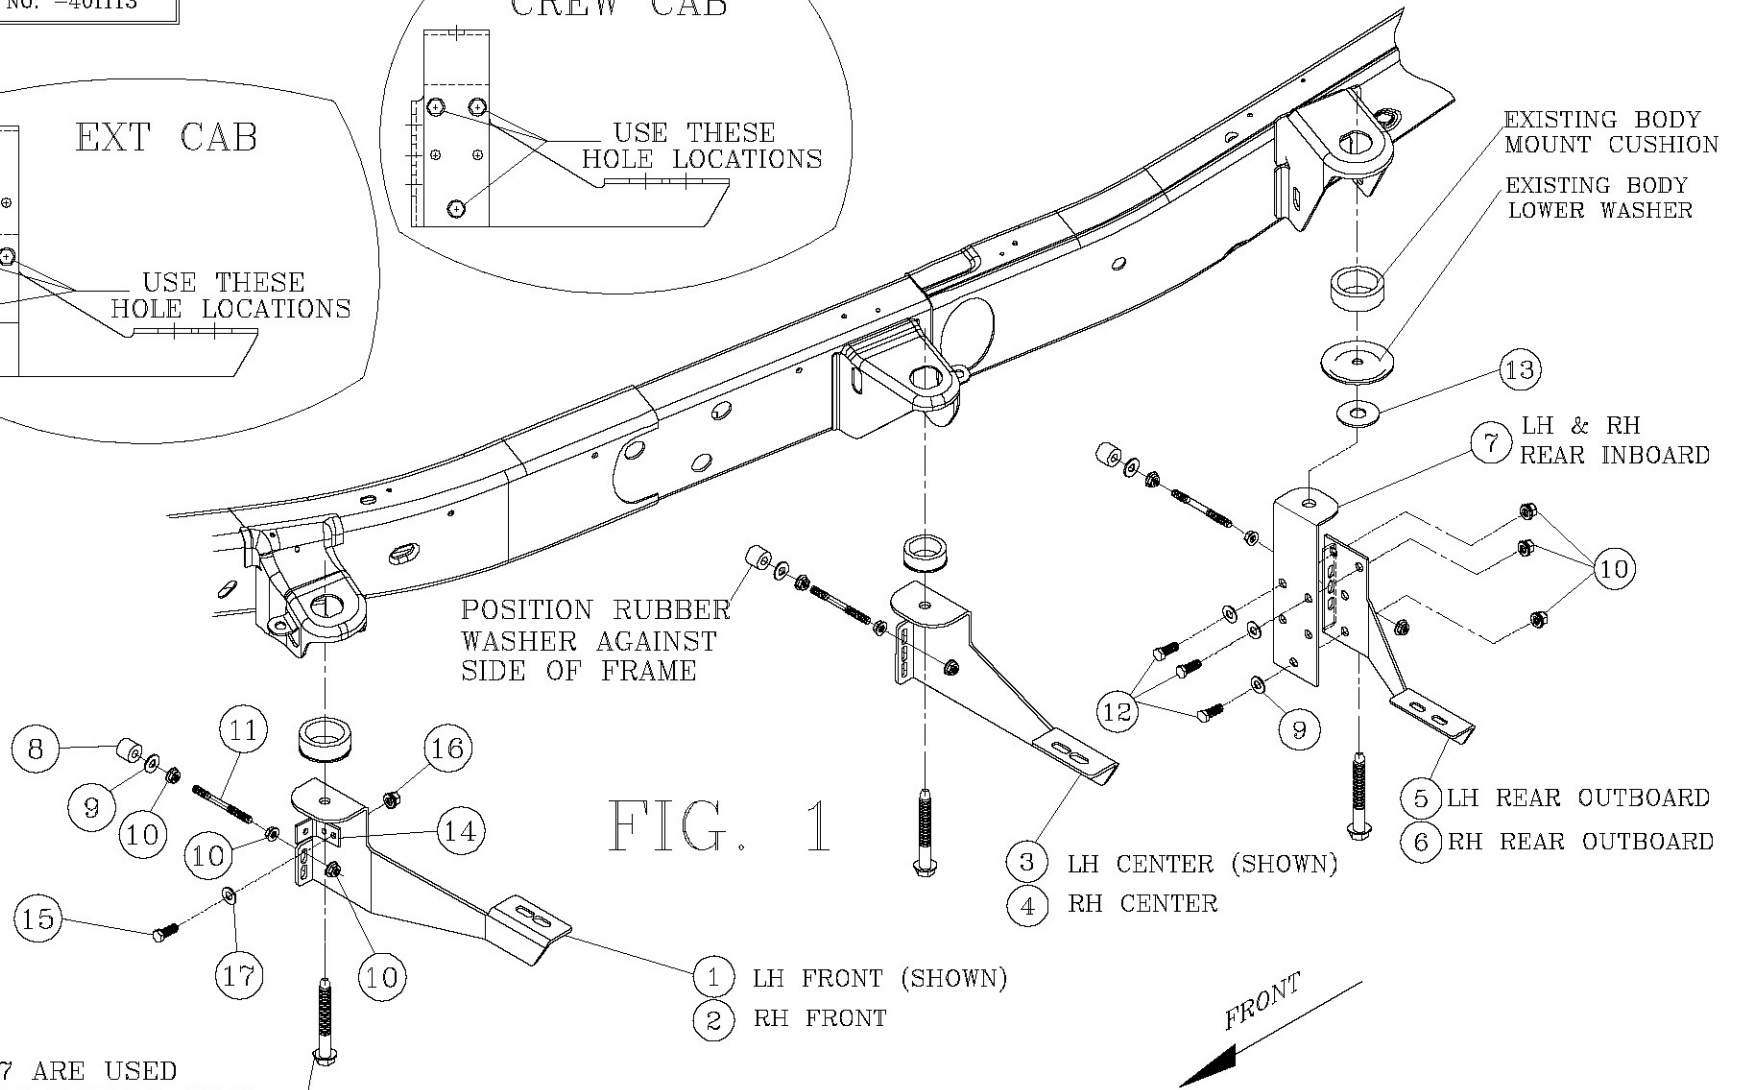

FIG. 1
**NOTE: IF YOU ARE MOUNTING THE STEPS ON A 1500 MODEL PICKUP, YOU MUST ATTACH BRACKET (ITEM #14) TO BRACKETS (ITEM #1 & 2) (SEE FIG 1.) IN ORDER TO USE THE LOAD REACTION STUD.**
- 4.3.1. ATTACH THE REAR OUTBOARD CAB MTG BRKT (ITEM #5 & #6) TO THE REAR INBOARD CAB MTG BRKT (ITEM #7), WITH THE 3/8" BLACK ZINC PLATED BOLTS (ITEM # 12), WASHERS (ITEM #9) AND SERRATED FLANGE NUTS (ITEM # 10). THE REAR OUTBOARD CAB MTG BRKT MUST BE MOUNTED TO THE BACK SIDE OF THE REAR INBOARD CAB MTG BRKT (TOWARDS THE REAR OF THE VEHICLE) AS SHOWN. BE SURE TO USE THE BOTTOM SINGLE HOLE AND BOTTOM DOUBLE HOLES IN THE REAR INBOARD CAB MTG BRKT (SEE FIG 1). PUT THE BOLTS THROUGH THE FRONT SIDE OF THE BRACKET SO THE FLANGE NUTS ARE ON THE BACK SIDE TO ALLOW CLEARANCE FOR THE FRAME OF THE TRUCK. TORQUE THE BOLTS TO 19 LB. FT.
- 4.3.2. INSTALL THE REAR OUTBOARD CAB MTG BRKT (ITEM #5 & #6) TO THE REAR INBOARD CAB MTG BRKT (ITEM #7), WITH THE 3/8" BLACK ZINC PLATED BOLTS (ITEM # 12), WASHERS (ITEM #9) AND SERRATED FLANGE NUTS (ITEM # 12). THE REAR OUTBOARD CAB MTG BRKT MUST BE MOUNTED TO THE BACK SIDE OF THE REAR INBOARD CAB MTG BRKT (TOWARDS THE REAR OF THE VEHICLE) AS SHOWN. BE SURE TO USE THE BOTTOM SINGLE HOLE AND TOP DOUBLE HOLES IN THE REAR INBOARD CAB MTG BRKT (SEE FIG 1). PUT THE BOLTS THROUGH THE FRONT SIDE OF THE BRACKET SO THE FLANGE NUTS ARE ON THE BACK SIDE TO ALLOW CLEARANCE FOR THE FRAME OF THE TRUCK. TORQUE THE BOLTS TO 19 LB. FT.